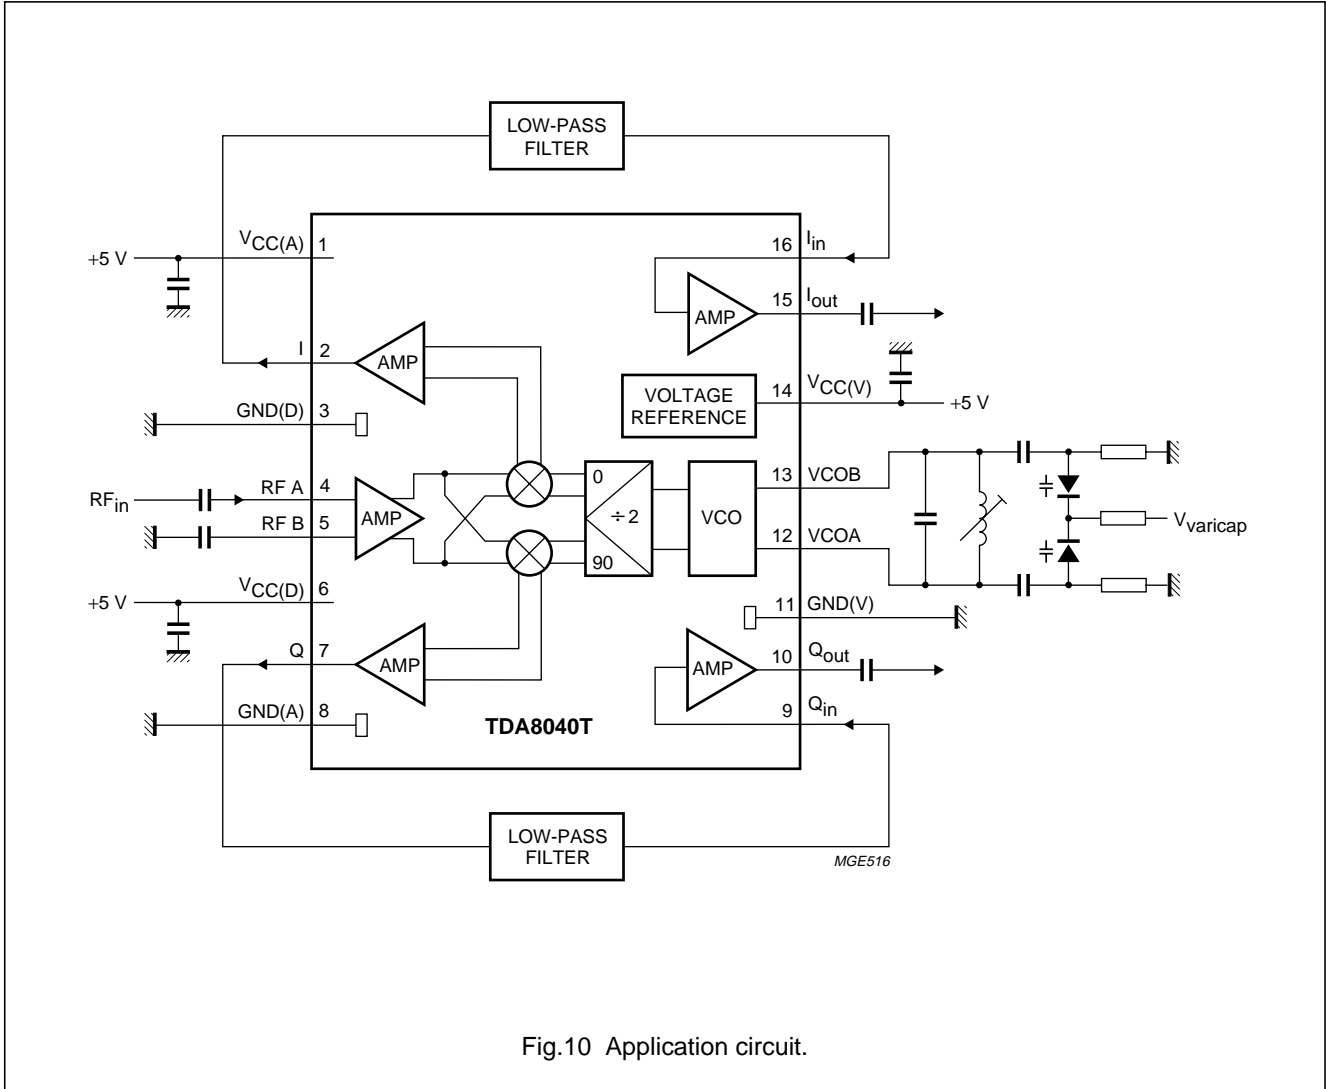

Fig.10 Application circuit.
$V_{CC(A)} = V_{CC(D)} = V_{CC(V)} = 5\text{ V}$; $f_{i(RF)} = 70\text{ MHz}$; $f_{i(VCO)} = 140\text{ MHz}$; $V_{i(RF)} = 67\text{ dB}\mu\text{V}$; $T_{amb} = 25\text{ }^\circ\text{C}$; measured in application circuit of Fig.10; unless otherwise specified.
8. The temperature for the VCO frequency drift is defined for $\Delta T_{amb} = 25$ °C. It is measured in the application circuit of Fig.10 with the following component values for the tank circuit: